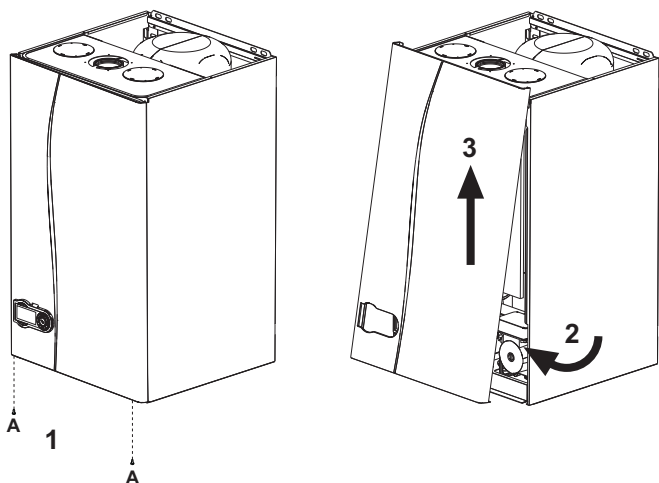

fig. 27 - Opening the casing
1. Undo the screws A (see fig. 27).
2. Turn the casing (see fig. 27).